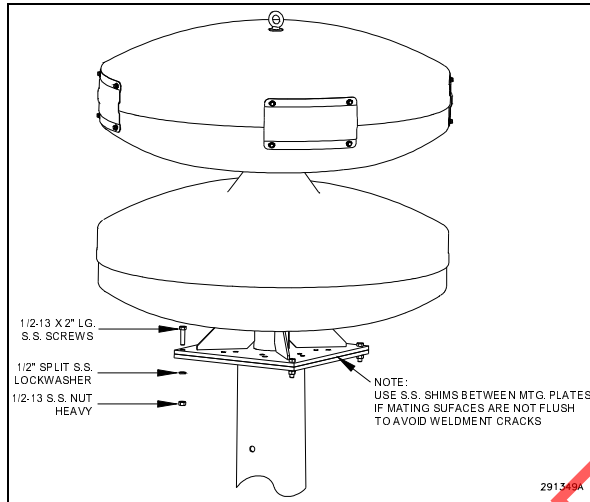

Figure 3-3. Steel Pole Mounting
3. Attach the modulator base to the pole's top plate with four of the stainless steel 1/2" bolts, nuts, and lock washers provided (see Figure 3-3). All